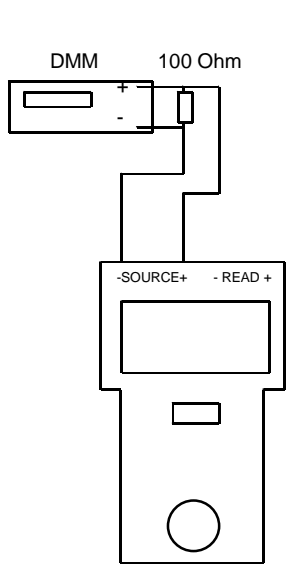

FIGURE 2
- 1) Connect the Source leads in series with the 100 Ohm resistor. Connect the DVM parallel with the 100 Ohm resistor (See Figure 2).